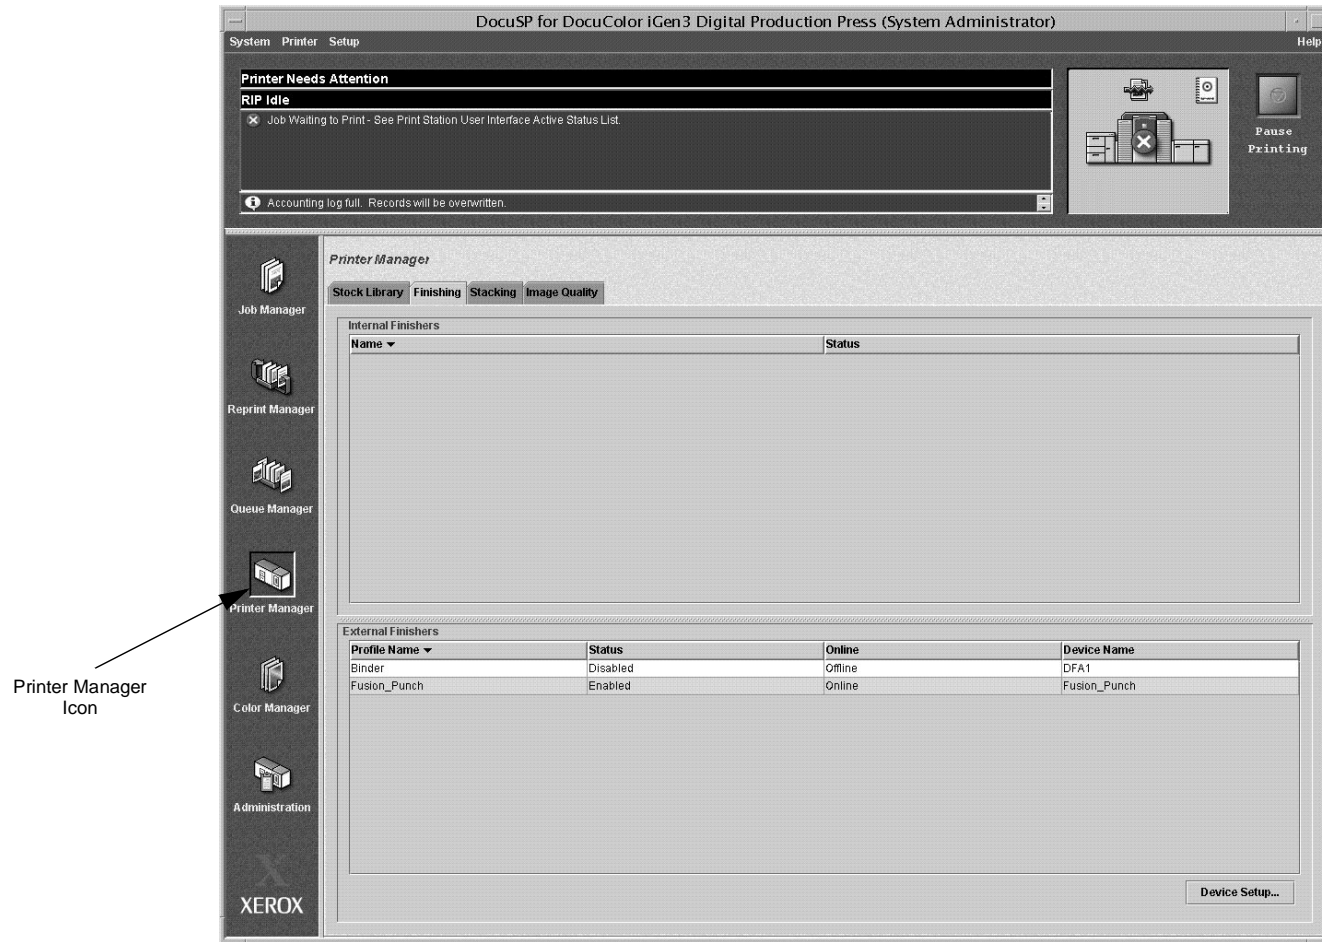

Figure 6-33 DocuSP Main Window
1. Once you are logged on as the **System Administrator**, click the **Printer Manager Icon** from the **DocuSP Main Window**, as shown in Figure 6-33.